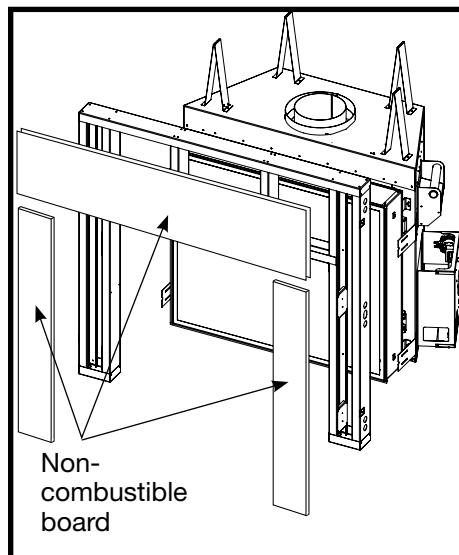
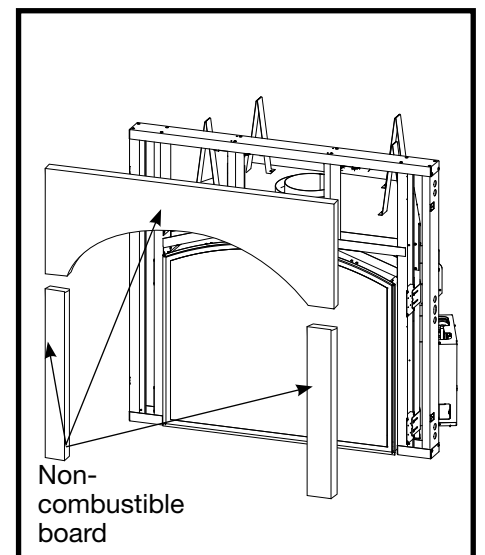

Figure 22: TC 36D regular frame with non-combustible board.
Figure 23: TC 36D arched frame with non-combustible board.
6. Install Non-combustible Board Use drywall screws to install the non-combustible board (Figure 22) or (Figure 23).